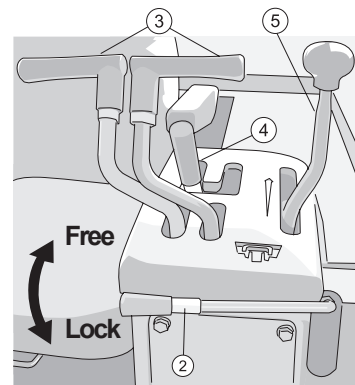

Figure 2-57
3. Gear shift lever (4) is in the NEUTRAL position, and gear shift lock lever (2) is in the LOCK position (Figure 2-57).
- Pull the throttle level (5) to the idling position. (Figure 2-57)
4. Release the gear shift lock lever (2) (Figure 2-57)